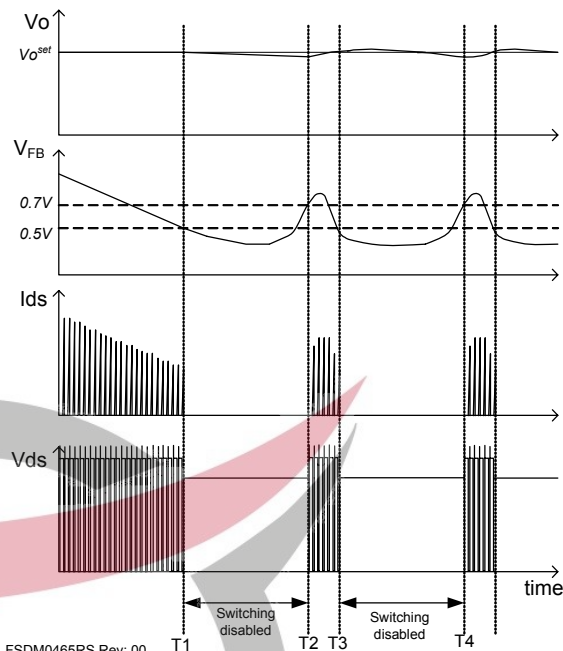

Figure 22. Waveforms of Burst Operation
5. Burst Operation: To minimize power dissipation in standby mode, the FSDM0465RS enters burst mode operation. As the load decreases, the feedback voltage decreases. As shown in Figure 22, the device automatically enters burst mode when the feedback voltage drops below V_{BURL} (500mV). At this point switching stops and the output voltages start to drop at a rate dependent on standby current load. This causes the feedback voltage to rise. Once it passes V_{BURH} (700mV) switching resumes. The feedback voltage then falls and the process repeats. Burst mode operation alternately enables and disables switching of the power SenseFET thereby reducing switching loss in standby mode.